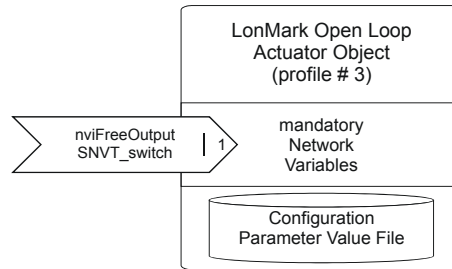

Fig. 9. Open Loop Actuator Object
- one open loop actuator object (see Fig. 9)